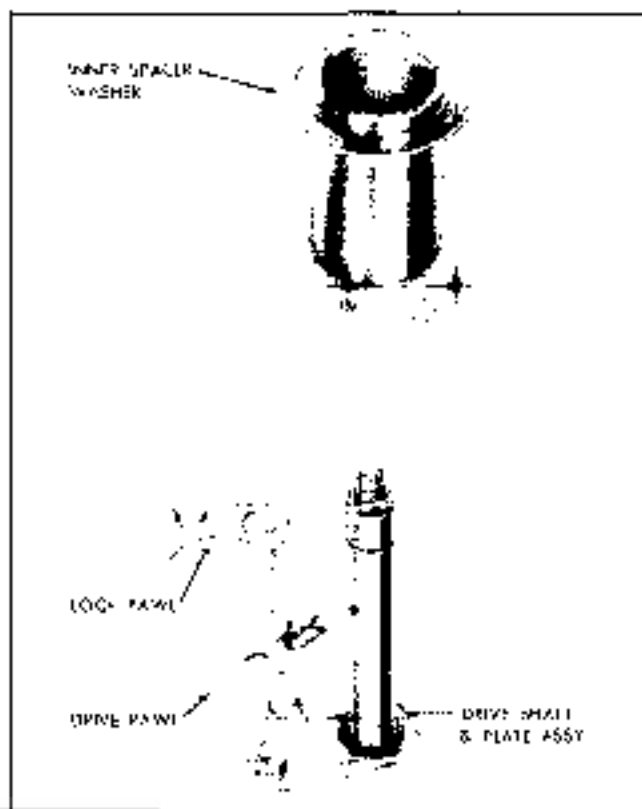

Fig. 12-37 Drive Shaft and Gear Assembly—Pontiac
3. Slide drive shaft and plate assembly out of gear and remove drive pawl, lock pawl and coil spring as required (Fig. 12-37).